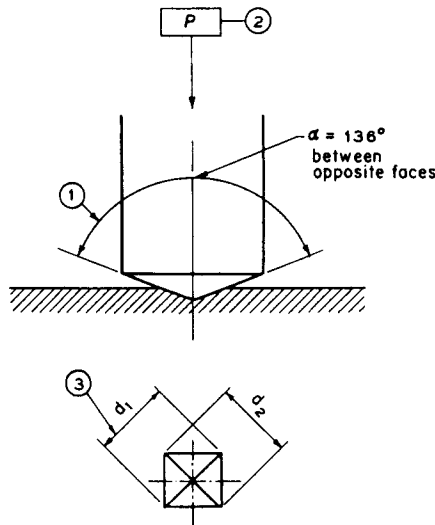

FIG. 1 Vickers Hardness Test (see Table 1)
3.1 *Vickers hardness number, HV*—a number related to the applied load and the surface area of the permanent impression made by a square-based pyramidal diamond indenter having included face angles of 136° (see Fig. 1 and Table 1), computed from the equation:
TABLE 1 Symbols and Designations Associated with Fig. 1